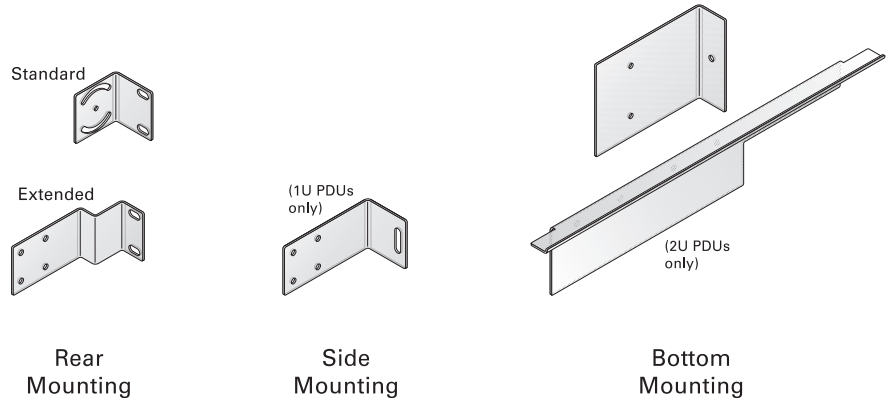

Figure 1. PDU Mounting Brackets
In addition to the rear of the rack mounting location, 1U PDUs can be mounted in the side of the rack, and 2U PDUs can be mounted in the base of the rack. Mounting hardware is included (See Figure 1) which will enable you to install your PDU in any of these locations.
1. Locate and identify the correct brackets for your particular installation. There are two different sets of brackets (See Figure 1) that can be used to install a PDU in the rear of the rack:
1. Locate and identify the correct brackets for mounting a 1U PDU in the side of the rack. See Figure 1 for help in identifying the proper brackets.
1. Locate and identify the correct brackets for mounting a 2U PDU in the bottom of the rack. See Figure 1 for help in identifying the proper brackets.